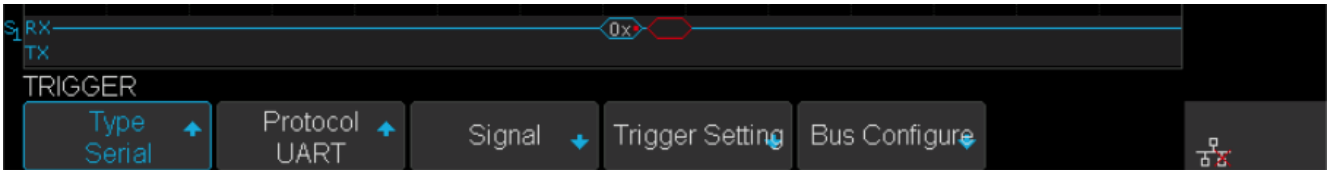

Figure 7.22 UART Decode Bus Display
4. Touch **Signal** to enter the **SIGNAL** menu as shown in figure 7.22.